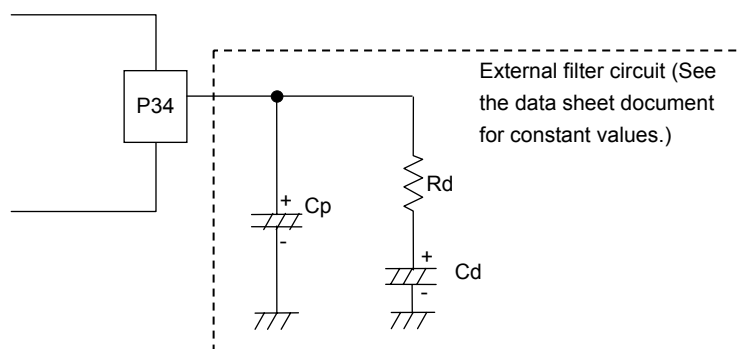

Figure 3.18.3 External PLL Filter Circuit for the Internal PLL Circuit
- 1) Must be set to 0 together with VCONSTP and CMPSTP to generate the USB 48 MHz clock from the internal PLL circuit. In this case, P3DDR (FE4DH), bit 4 (P34DDR) and P3 (FE4CH), bit 4 (P34) must be set to 0. In addition, it is necessary to connect an external filter to the P34/UFILT pin as shown in Figure 3.18.3